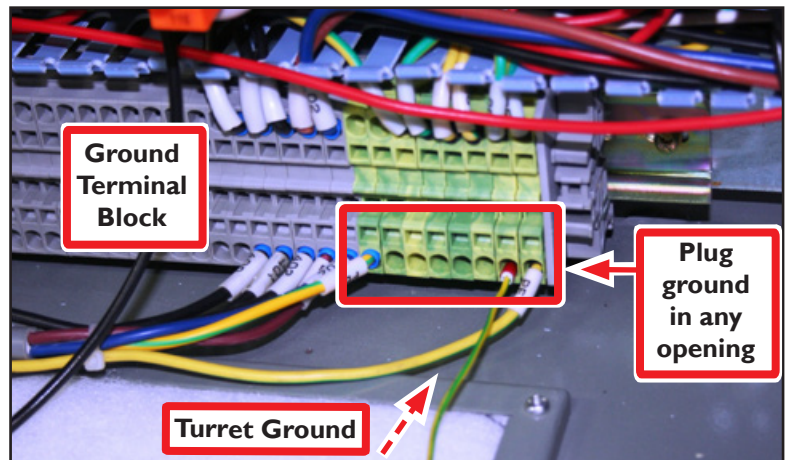

Figure 21
26. Locate the Turret Ground wire and connect to any terminal opening in the green section of the Ground Terminal Block (see **Figure 21**).